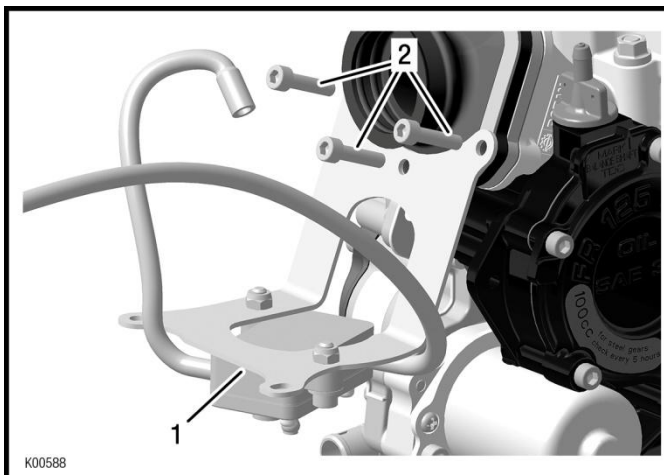

Fig. 2
- ➔ Install the support bracket (pos. 1) with fuel pump on the carburetor socket using 3 screws M6x30 (pos. 2). Tightening torque 6 Nm / 53 lbf in. See Fig. 2.